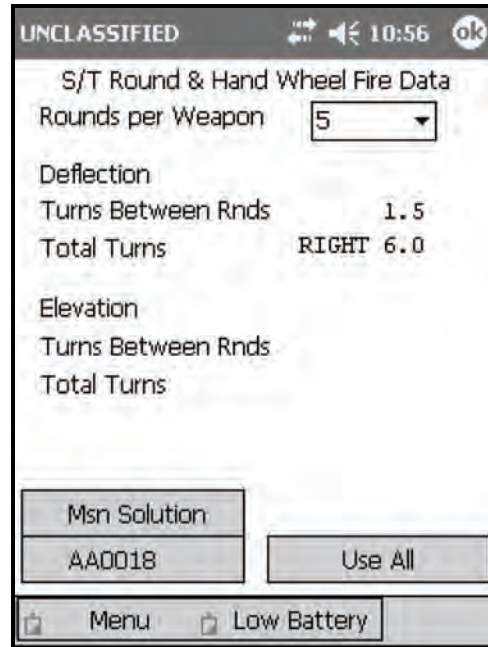

Figure 18-97. Search and Traverse Round and Hand Wheel Fire Data screen.
(22) Select Srch/Trav Data.
(23) The S/T Round and Hand Wheel Fire Data screen (Figure 18-97) displays. This screen is comprised of the following fields: